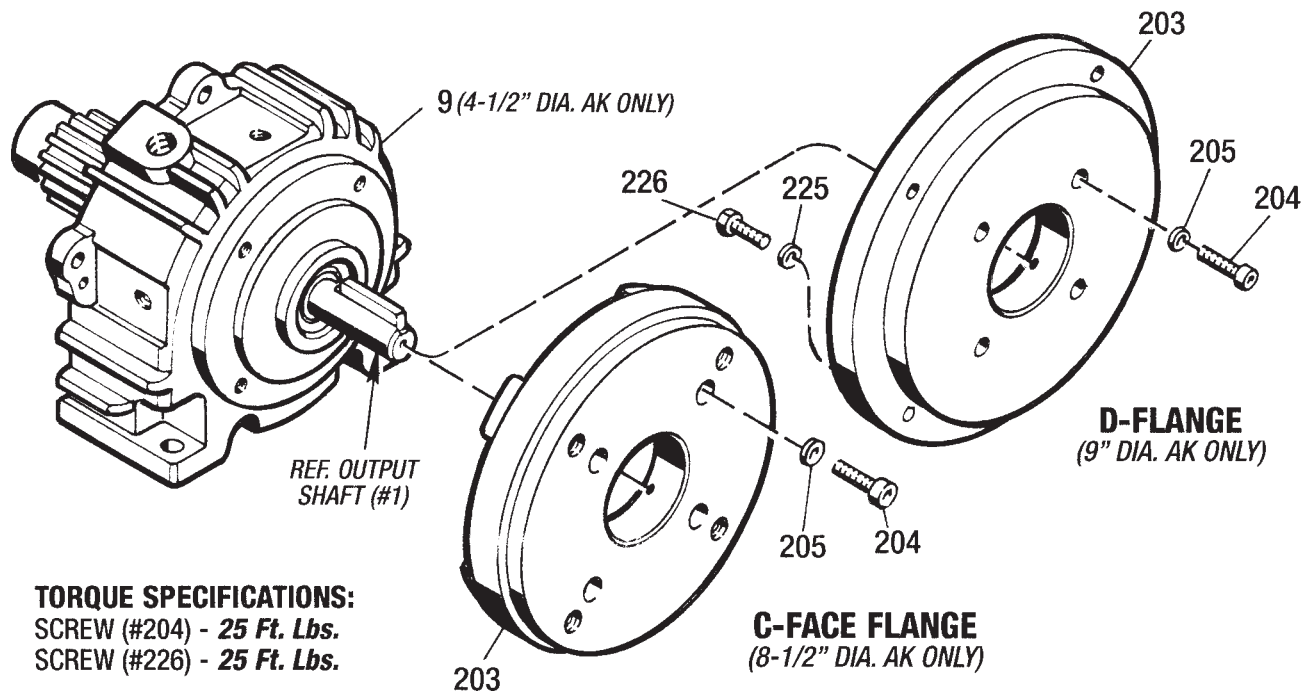

Figure 10.2 - Quill Input Shaft and Mounting Adapter Flanges
**Repair Parts List - Figure 10.2**